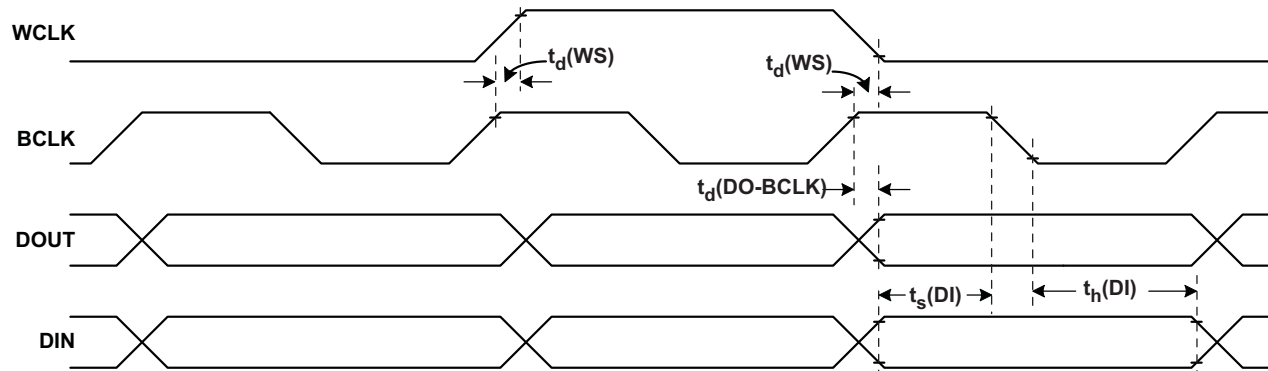

Figure 3-3. DSP Timing in Master Mode
3.4.3.1 TYPICAL TIMING CHARACTERISTICS (see Figure 3-3)